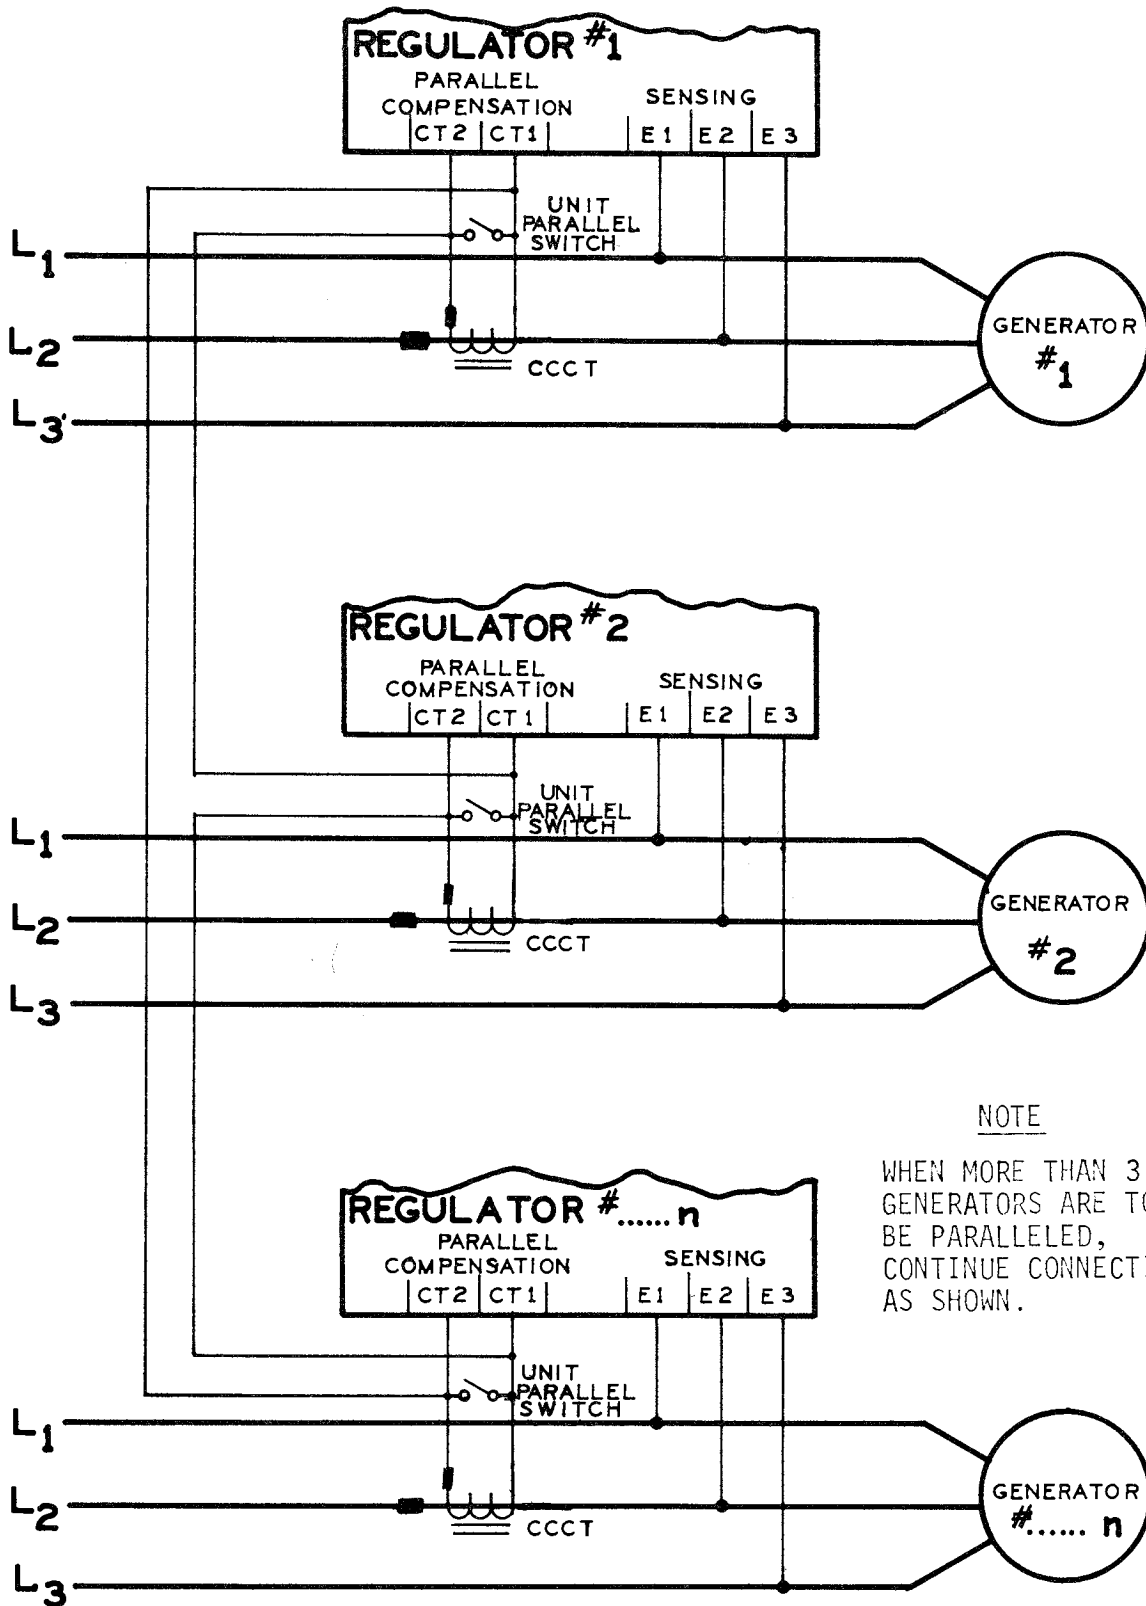

Figure 6-8 Cross-Current Compensation CCCT's Interconnection
5. PARALLEL COMPENSATION - Determine that regulator has parallel provisions (See Table 1-1 and paragraph 1.2). The polarity shown is for L1, L2, L3 phase rotation. Unit parallel switch should be used in cross current compensation applications where all parallel generators are not continually on system bus. (See Figure 6-8).